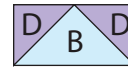

Fig. 19
18. Use the flip and sew method to add a 2 1/2" Fabric D square to each side of (1) 2 1/2" x 4 1/2" Fabric B strip to make (1) large DBD unit (Fig. 19).